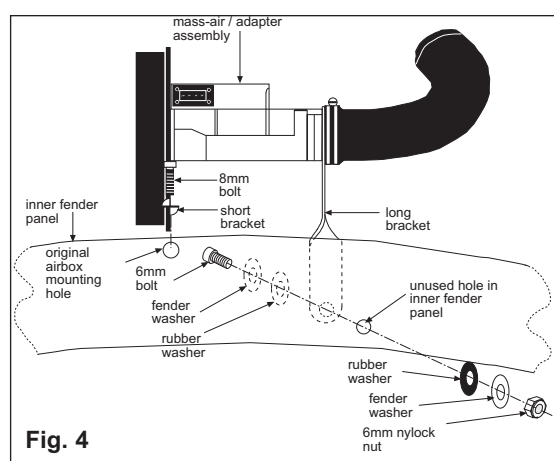

Fig. 4
- 17) Install mass-air/adapter assembly into vehicle. Slide the plastic intake elbow into the primary intake hose. The long bracket will line up with an unused hole in the fenderwell, and should be gently secured with supplied hardware. The short bracket will line up with one of the air box mounting holes in the fenderwell. (Due to slight variations in production tolerances on the vehicles, the mass-air assembly might have to be slightly flexed into position). Use the supplied 8mm hex head bolt, but do not completely tighten at this time. (see fig. 4)